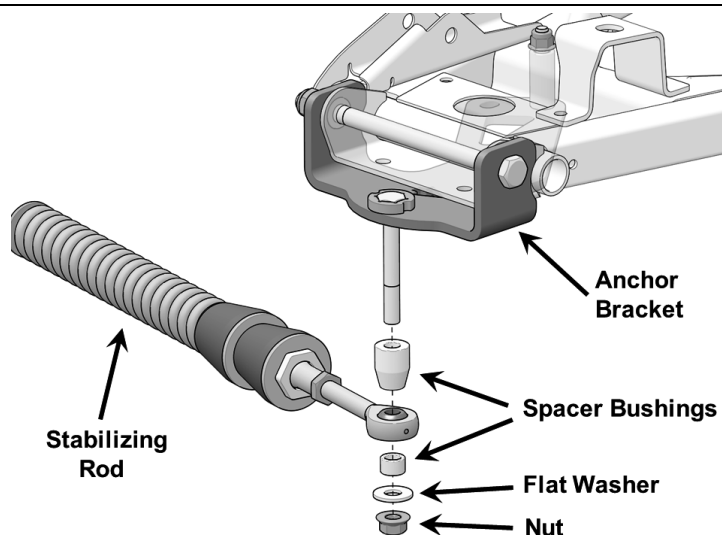

**Figure 20**
9. Secure the undercarriage to the rear hub using the nuts (**ref. #26**) provided in this mount kit. See Figure 20.